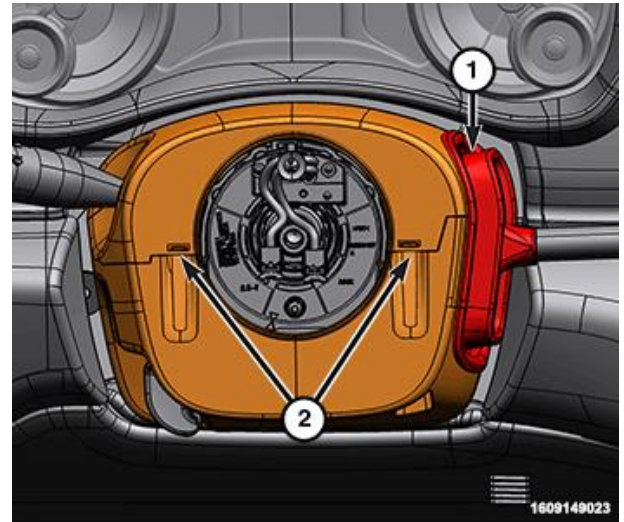

Figure 23 – Steering Column Shroud
- 18. If equipped, release the shifter boot (1) from the steering column shroud (Figure 23).
- 19. Disengage the upper steering column shroud tabs (2) from the lower steering column shroud (Figure 23).
7. Install the upper steering column shroud to the lower steering column shroud (Figure 23).
8. If equipped, install the shifter boot (1) to the steering column shroud (Figure 23).